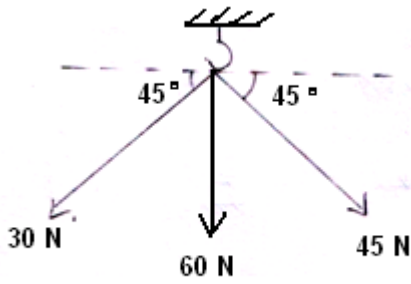
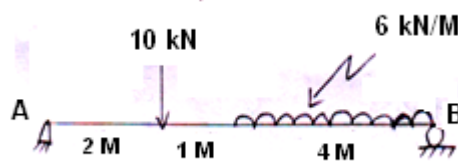

Fig.1
Fig. 8
Q.1	(a) Write the SI units of following quantities and also mention whether it is scalar or vector: (i) Force (ii) Moment (iii) Density (iv) Pressure (v) Work (b) Find the resultant of following Coplanar Concurrent forces as shown in fig 1 .
Q.9	(b) Explain with suitable figure: 1) Types of support 2) Types of loads 3) Types of beam (b) Find the reaction developed at supports for the beam shown in fig.8 .